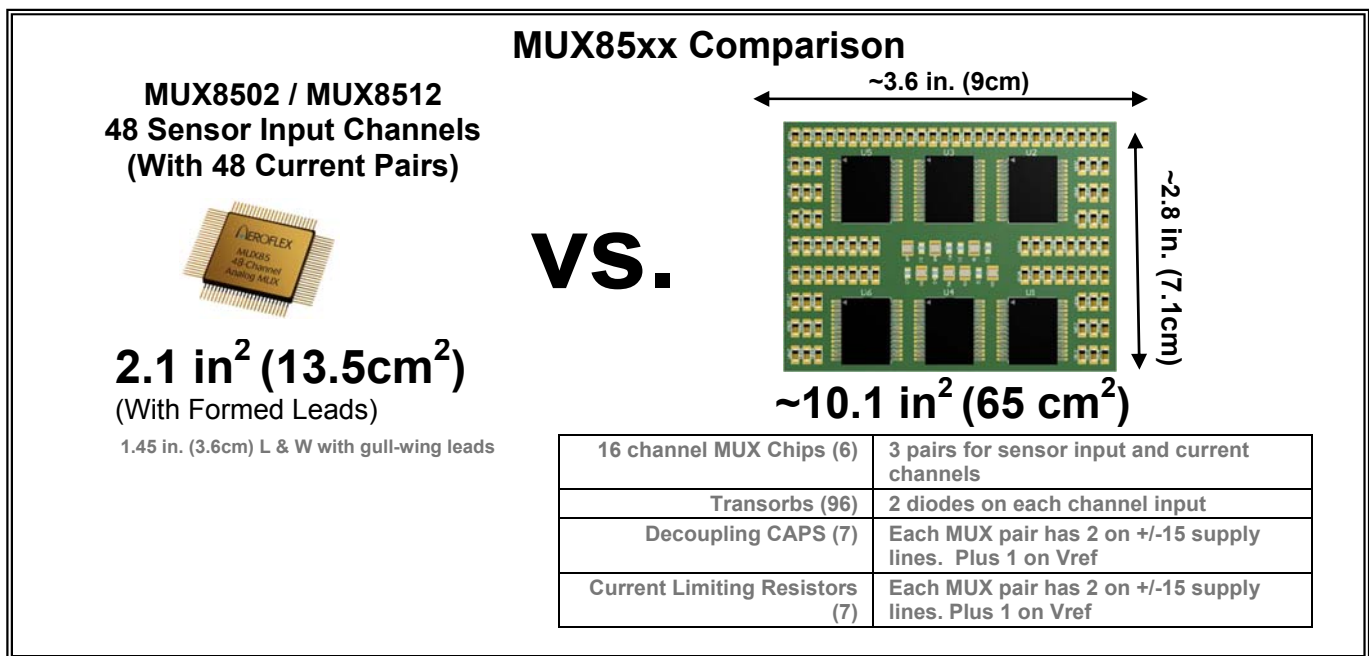

Figure 3
- See Figure 3
- A single module saves layout time and trouble shooting when compared to separately using 116 parts. An example is in Figure 3.